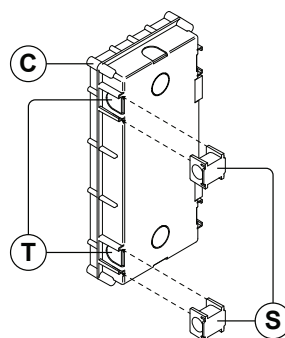

Fig. 68
1. Take the flush box clips (S) and slide them into the side slots (T) on the 1st flush box, as shown in **Fig.68**;